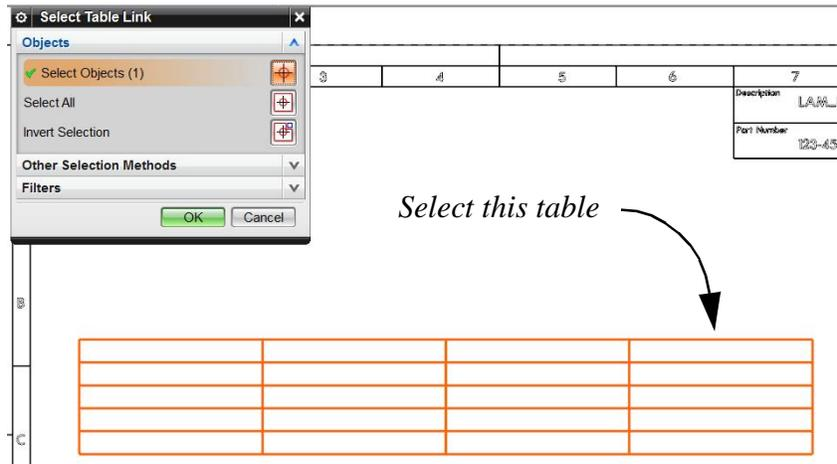

Figure 8–35
33. In the Table.1 row, click  as shown in Figure 8–36.